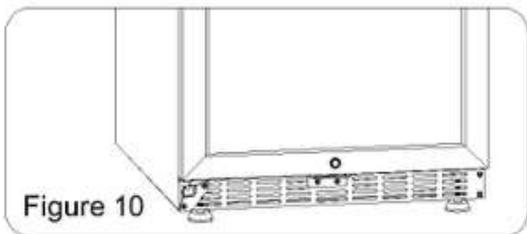
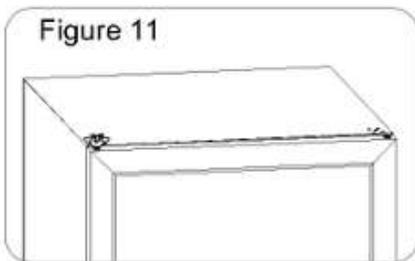

Figure 10
Figure 11
- 7 Align glass door shaft to the shaft of lower door hinge (Fig 10). Then, aim the upper door hinge (Fig 11). Adjust the door and ensure the cabinet is aligned and level, then tighten all the lock screws.